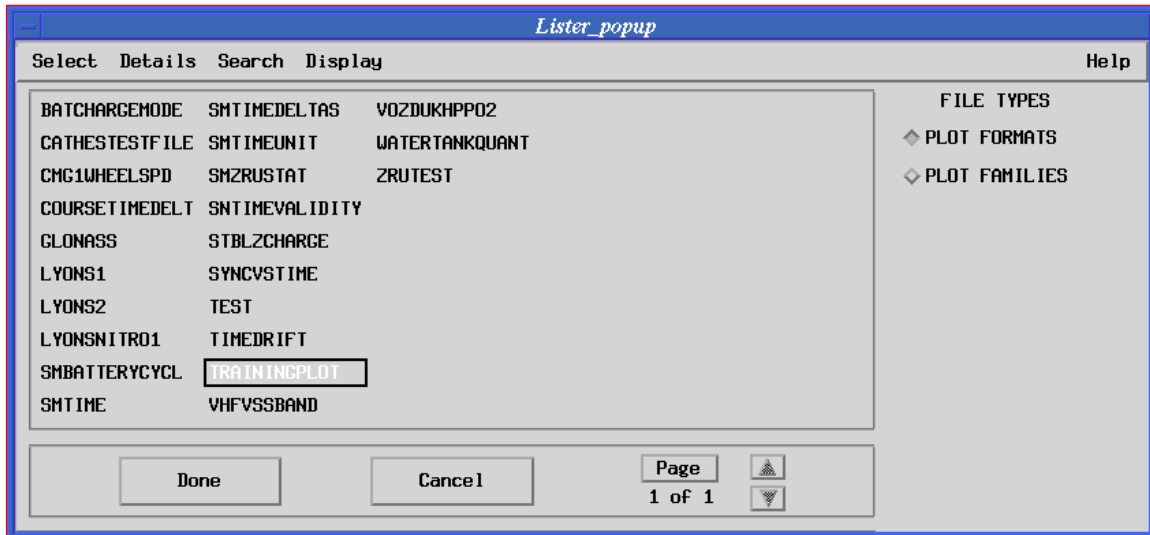

Figure 4-20. MEWS plot file directory
2. Click on **Data** to bring up the plot file directory (Figure 4-20).